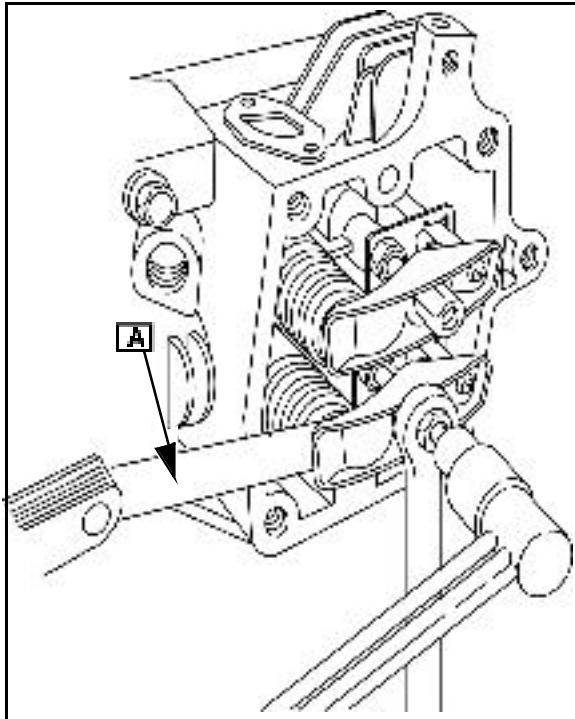

Fig. 36
4. Using a feeler gauge ([A] Fig. 36), check valve clearance.